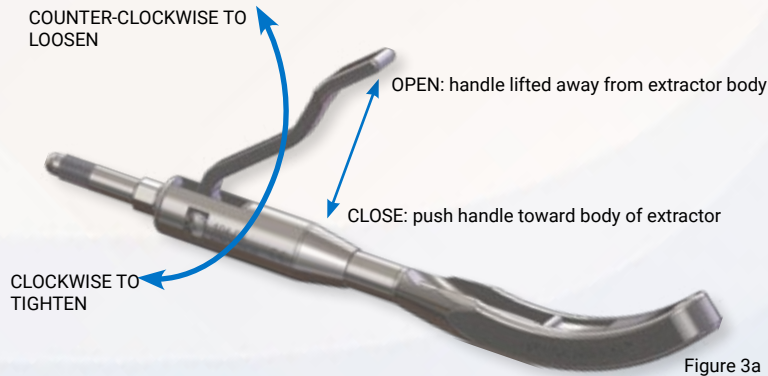

Figure 3a
1. With handle in open position, slide Hip Stem Extractor (104-04) over implant neck as far down as possible. Rotate the extractor handle counter-clockwise to loosen the jaw if necessary (Fig 3a).